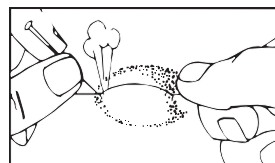

FIGURE 7
5. Press out the entrapped air starting at the opposite edge from the puncture. (Figure 7)